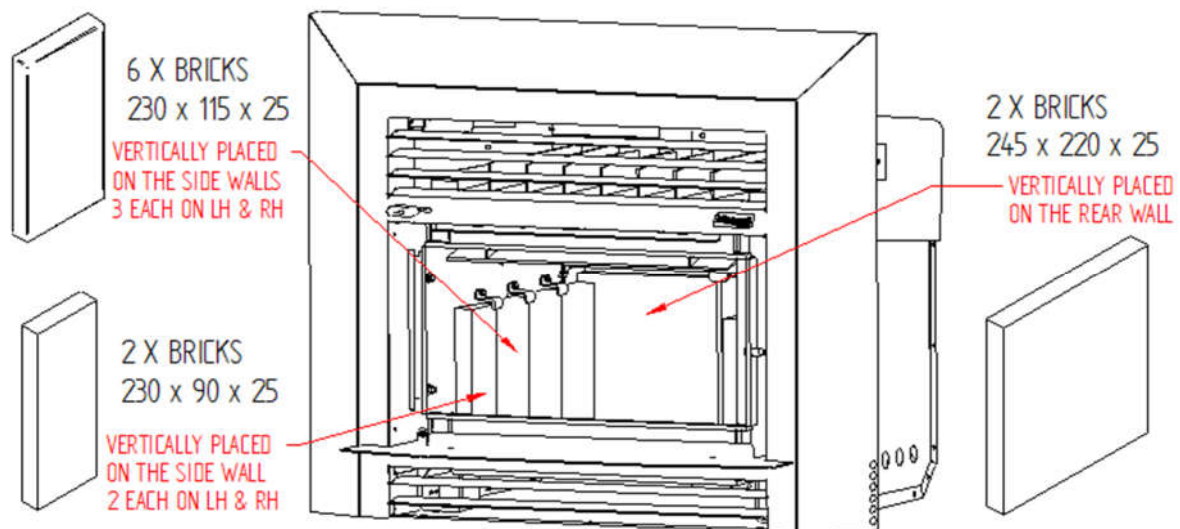

Fig. 8 - Rangitata Brick Configuration
- Install Bricks in the following configurations. Refer Fig. 8